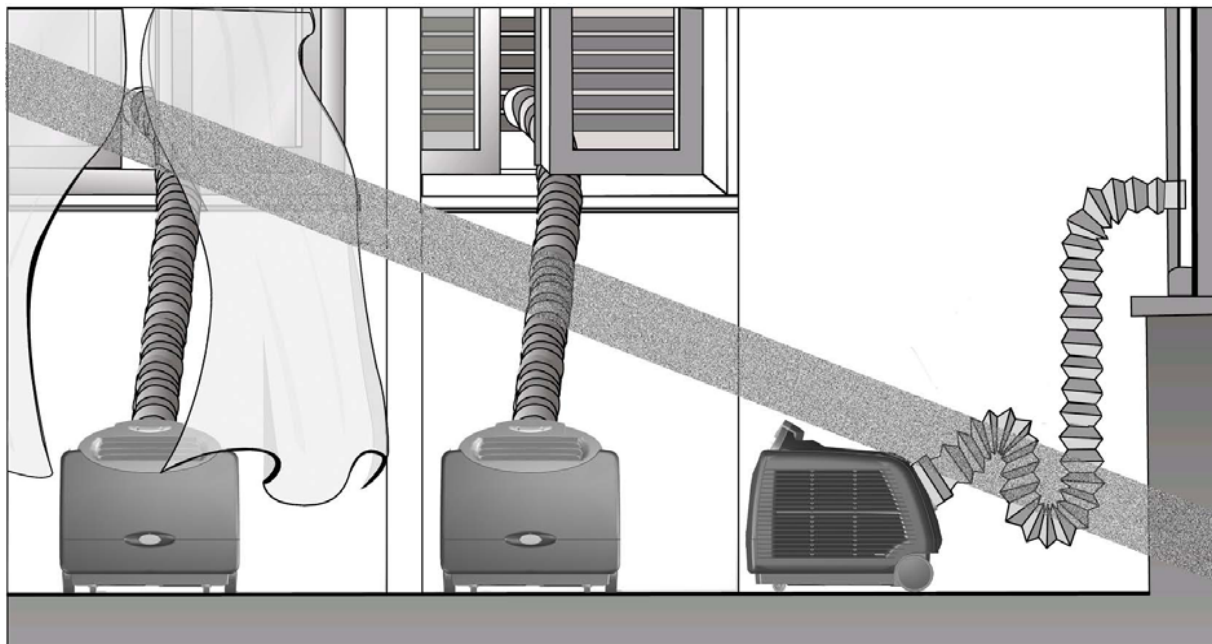

Fig. 2
- Ensure curtains or other objects are not obstructing the air inlet filters. (Fig.2)
- Do not bend or crush the exhaust hose while in use. (Fig.2)